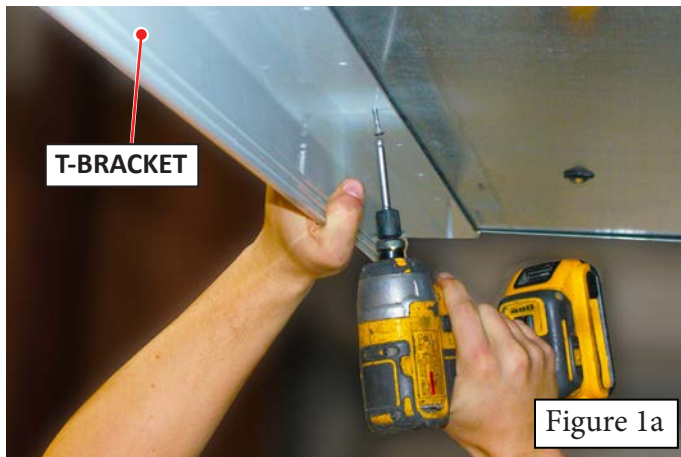

Figure 1a
1. Remove the T-bracket on the outside bottom edge of the slide-out (Figure 1a and 1b).